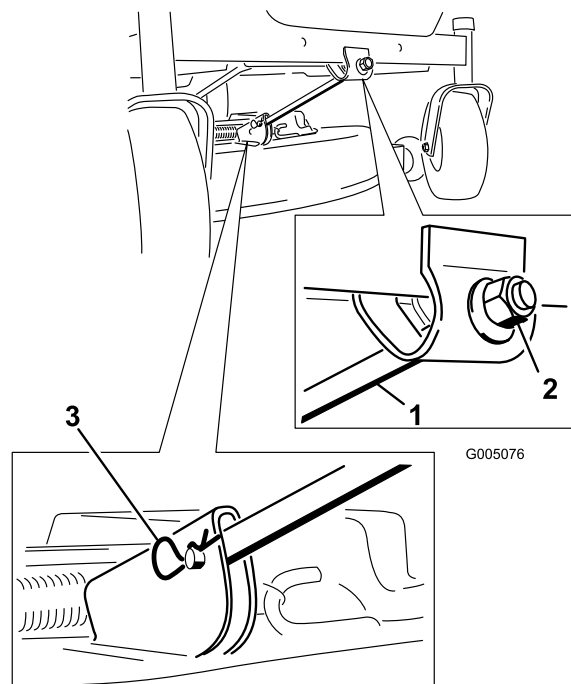

Figure 47
4. Remove the hairpin cotter and clevis pin from the front support rod (Figure 47). Carefully lower the front of the mower deck to the ground.
6. Attach the front support rod to the mower deck with the clevis pin and hairpin cotter (Figure 47).